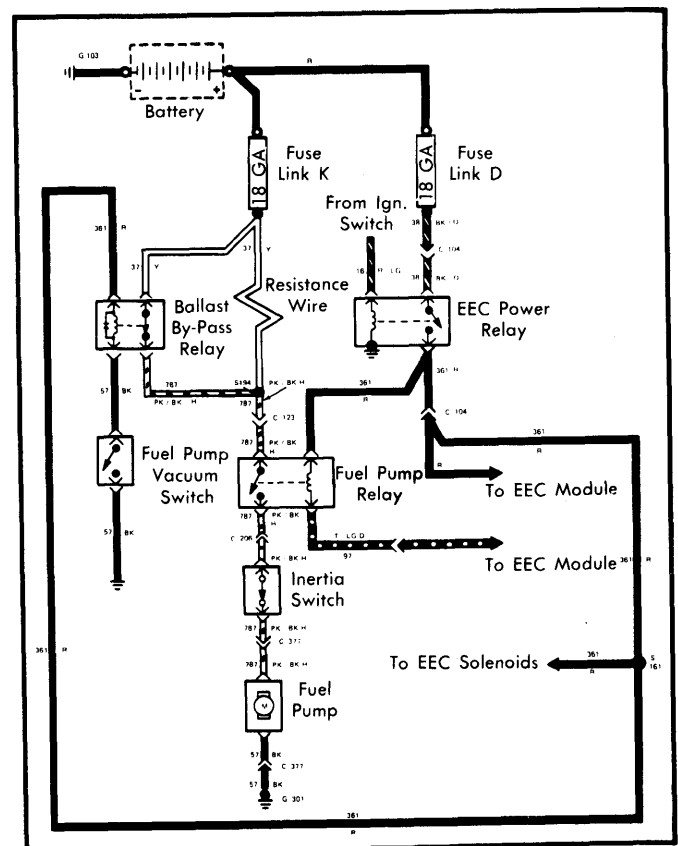

Fig. 5 Fuel Pump Wiring Diagram
2) Voltage should rise to battery voltage, then return to zero volts after about 1 second. If voltage is not as specified, check electrical system. See Fig. 5.